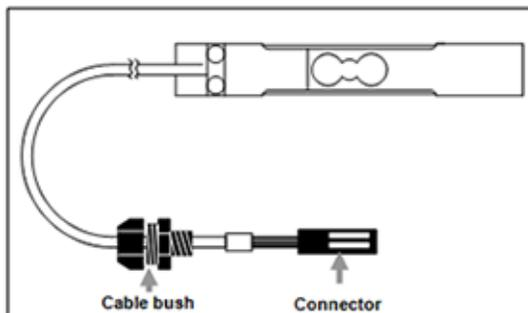

Fig. 3-2 View of Load Cell for Shipment
- ① The load cell is supplied in an assembly as shown in **Fig. 3-2 View of Load Cell for shipment**. The load cell comes with the preassembled cable bush and connector, and accordingly the connector can be connected without disassembling the indicator.